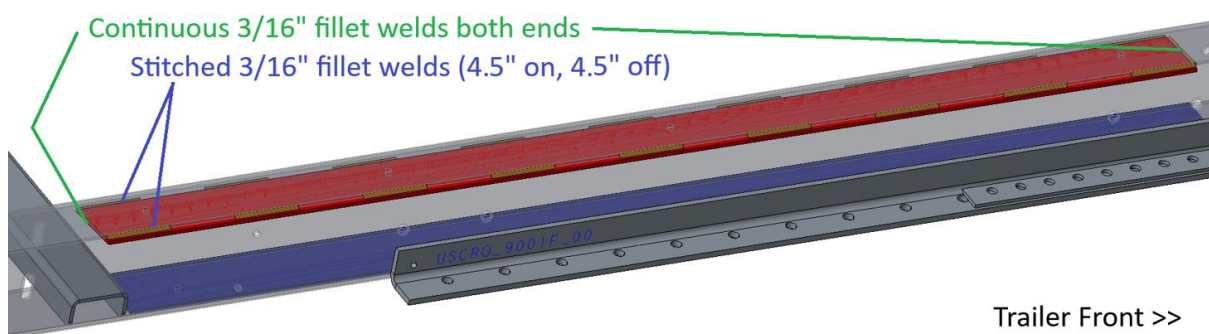

Figure 3: Completed Type 1 Doubler plate installation
5. Figure 3 shows the completed installation.